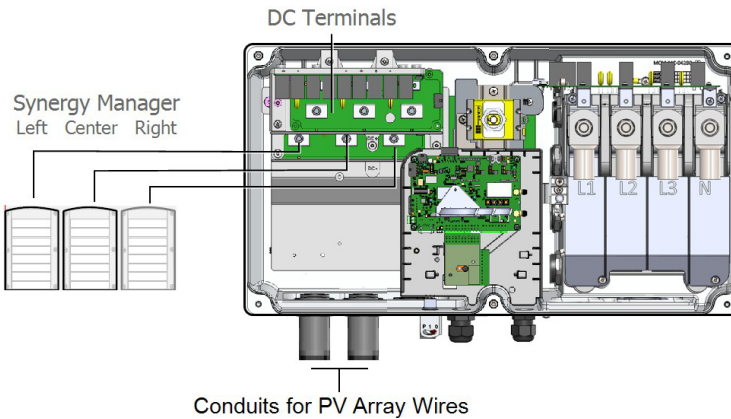

Figure 22: Connecting methods of PV Strings and PV arrays to Synergy Manager
*Figure 22* shows the various methods of connection of DC from the PV strings and PV arrays to Synergy Manager.